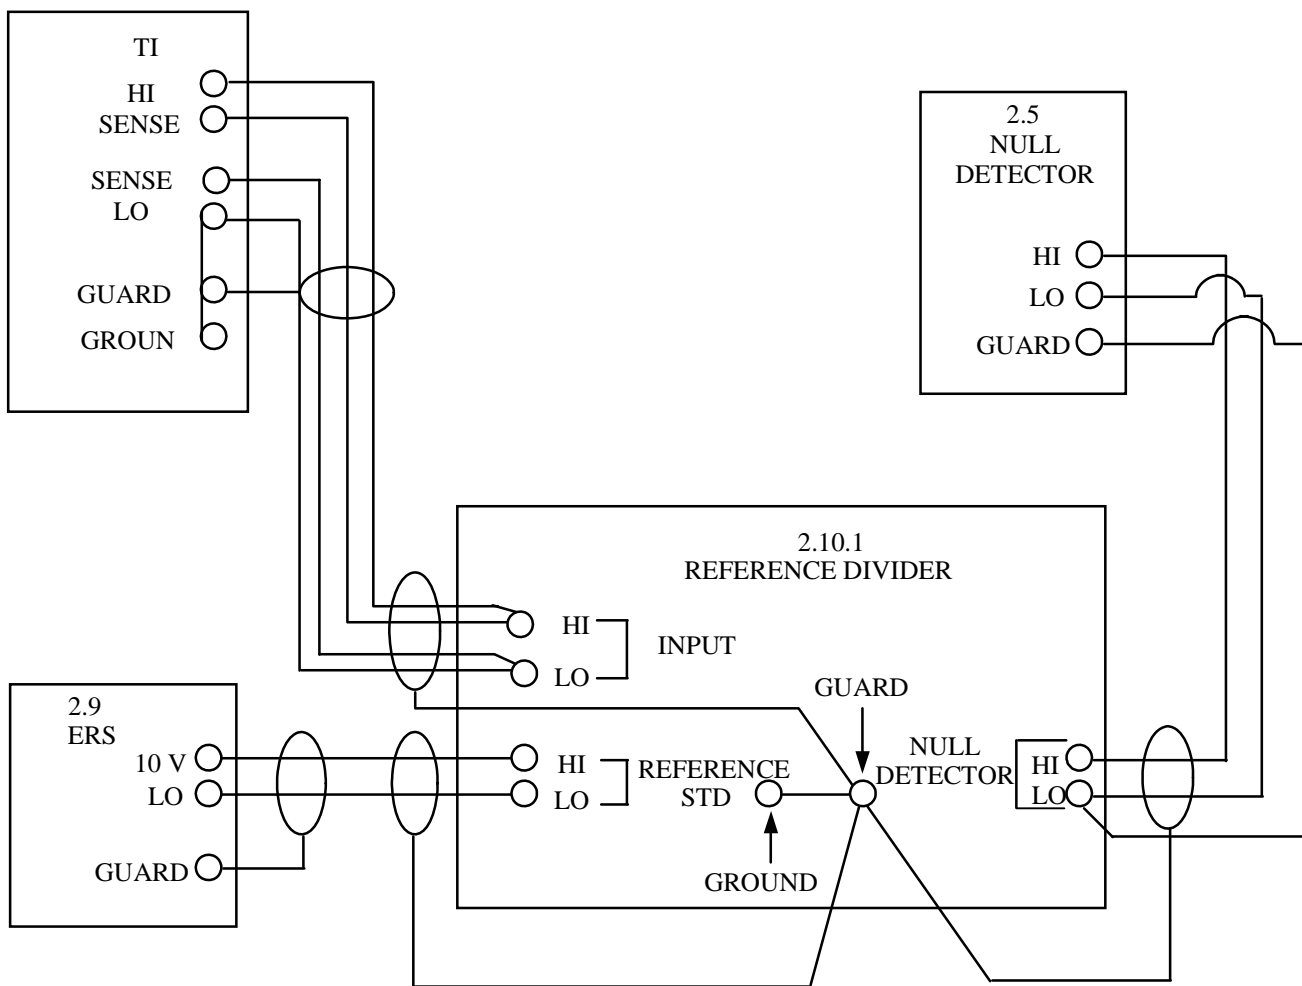

Figure 7. Output Voltage Test Configuration Using the 752A Reference Divider
4.6.2 Connect the equipment as shown in Figure 7.